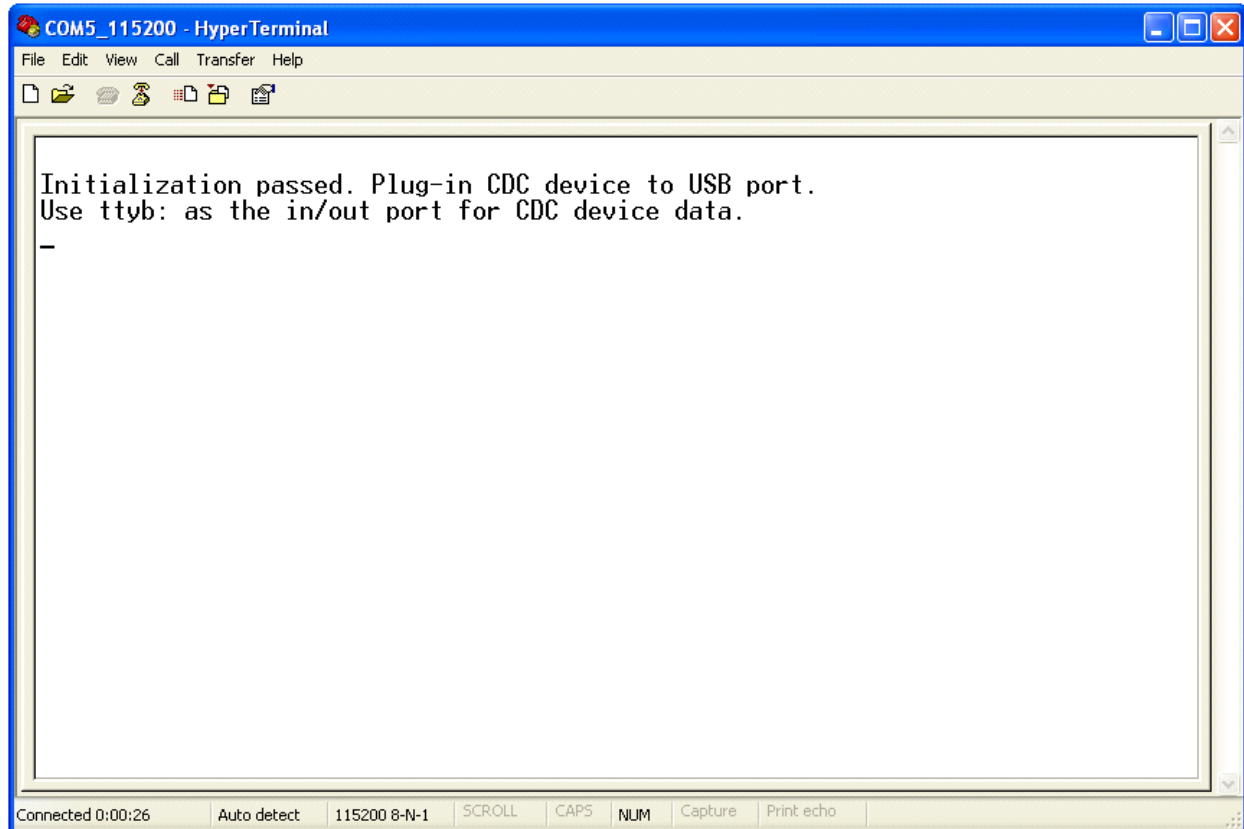

Figure C-2. USB Host waits CDC device plug-in
3. Run the Demo. The HyperTerminal displays a message as shown in Figure C-2.